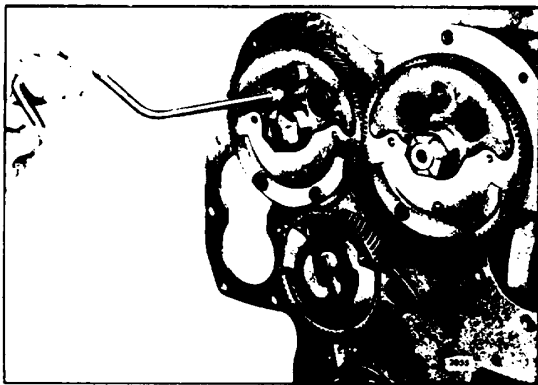

Fig. 2. - Removing or Installing Thrust Washer Retaining Bolts
11. Remove the two retaining bolts that secure the camshaft thrust washer to the cylinder block by inserting a socket wrench through a hole in the web of the gear as shown in Fig. 2.